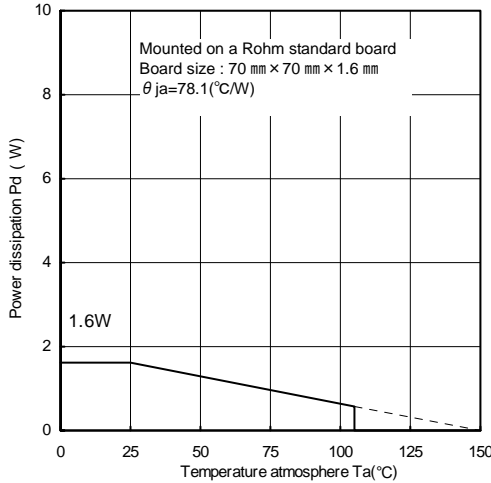
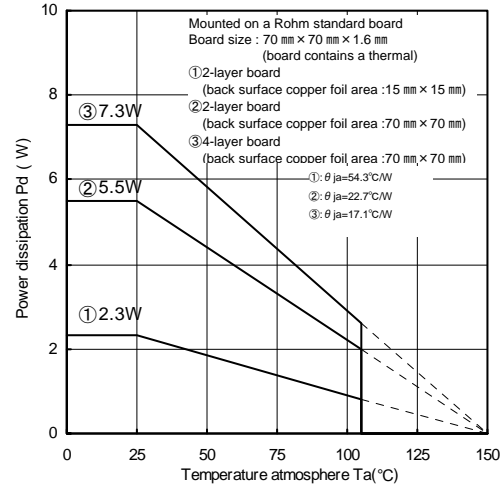

Fig.15
Fig.16 (Reference data)
When using at temperatures over $T_a=25^\circ\text{C}$, please refer to the heat reducing characteristics shown in Fig.15. and Fig.16. The IC characteristics are closely related to the temperature at which the IC is used, so it is necessary to operate the IC at temperatures less than the maximum junction temperature $T_{j\text{max}}$.
Fig.15 and Fig.16 shows the acceptable loss and heat reducing characteristics of the HRP5 package. Even when the ambient temperature T_a is a normal temperature (25°C), the chip (junction) temperature T_j may be quite high so please operate the IC at temperatures less than the acceptable loss P_d .
The calculation method for power consumption $P_c(\text{W})$ is as follows :(Fig.16③)
$\left[\begin{array}{l} \text{Fig.16③: } \theta_{ja} = 17.1^\circ\text{C/W} \rightarrow -58.4\text{mW}/^\circ\text{C} \\ 25^\circ\text{C} = 7.3\text{W} \rightarrow 85^\circ\text{C} = 3.796\text{W} \end{array} \right]$